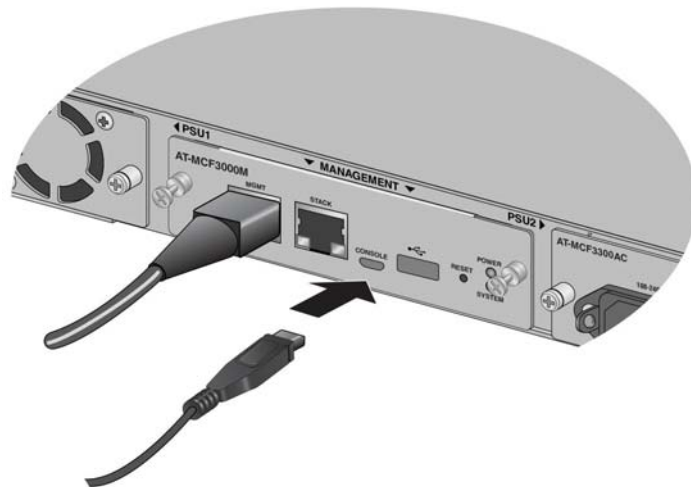

Figure 61. Connecting the Management Cable to the CONSOLE Port
1. Connect the micro-USB connector on the management cable to the CONSOLE port on the management module. Refer to Figure 61.